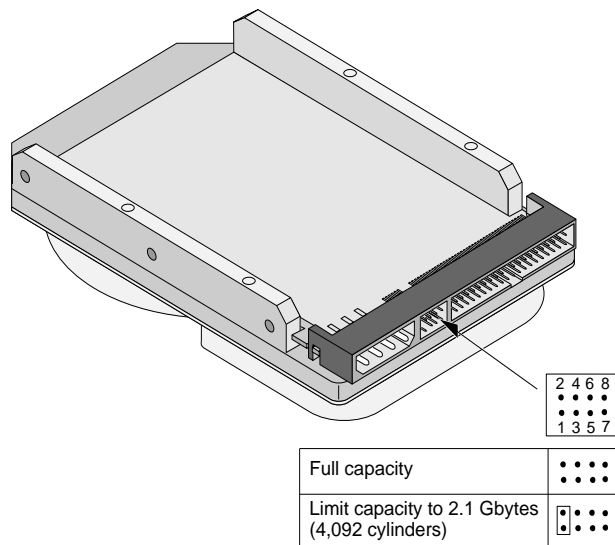

Figure 5. Alternate Capacity Jumper
2. Move the jumper on the alternate-capacity jumper, as shown in Figure 5. This causes the drive to appear to your BIOS as having a 2.1-Gbyte capacity (4,092 cylinders, 16 heads, 63 sectors per track). You may need third-party partitioning software, such as Disk Manager, to achieve full capacity of the drive.